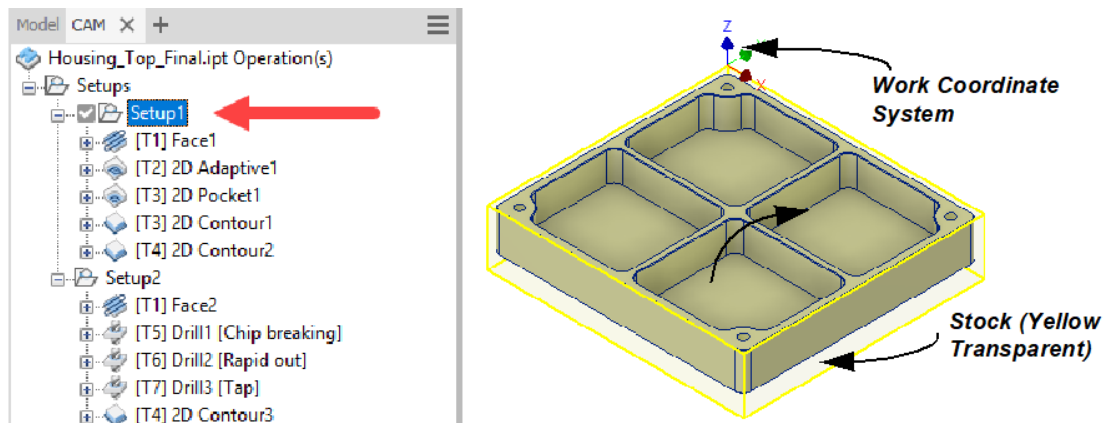

Figure 5
- To display the stock and WCS for a setup, select the setup name in the CAM browser, as shown in Figure 5. This allows you to quickly preview the setup and verify that the stock and WCS have been assigned properly.